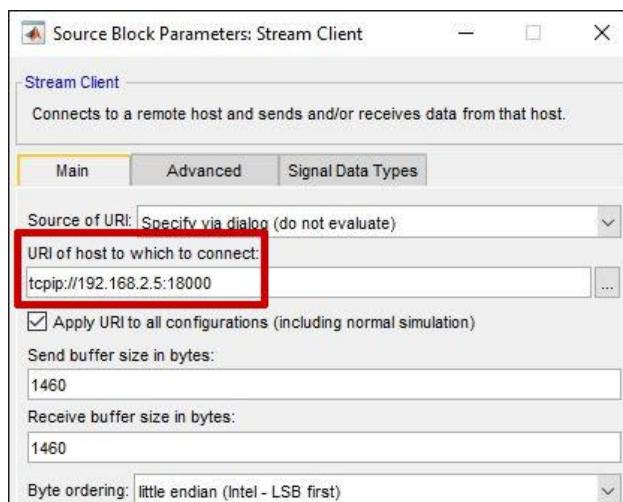

Figure 4: Setting the IP of the host in the Stream Client block.
8. In the same Simulink model, double click the Stream Client block, and change the URI of host to which to connect to (Figure 4):